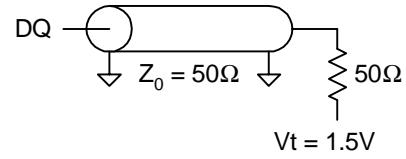

Fig. 1 OUTPUT LOAD EQUIVALENT
2. Test conditions as specified with the output loading as shown in Fig. 1 unless otherwise noted.
6. Capacitance derating applies to capacitance different from the load capacitance shown in Fig. 1.
Output load	See Figures 1 and 2